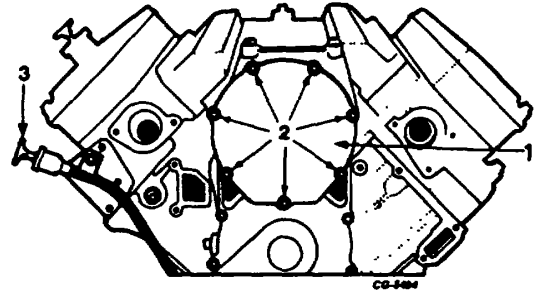

Figure 156. Removing Injection Pump Drive Gear Cover and Dipstick
- 13. Remove injection pump drive gear cover by removing seven bolts, then remove cover (Figure 156). Remove the oil level dipstick by turning back-and-forth and pulling at the same time.